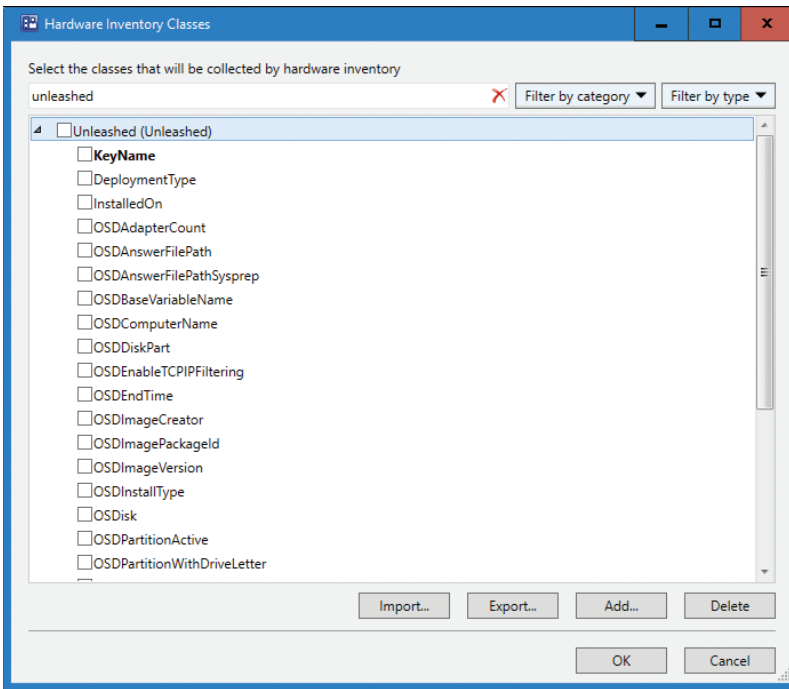

FIGURE E.5 Hardware inventory classes.
6. You now return to the Add Hardware Inventory Class page. The Inventory classes are loaded, as displayed in Figure E.5. These classes should now include `Unleashed` if the policy was received and the WMI extensions were added. Ensure that the **Unleashed** check box is checked. You can select **Edit** to modify the properties so its value represents a unit that can be Megabytes, Kilobytes, Decimal String, Seconds, Hex String, or Date String; the default is None.